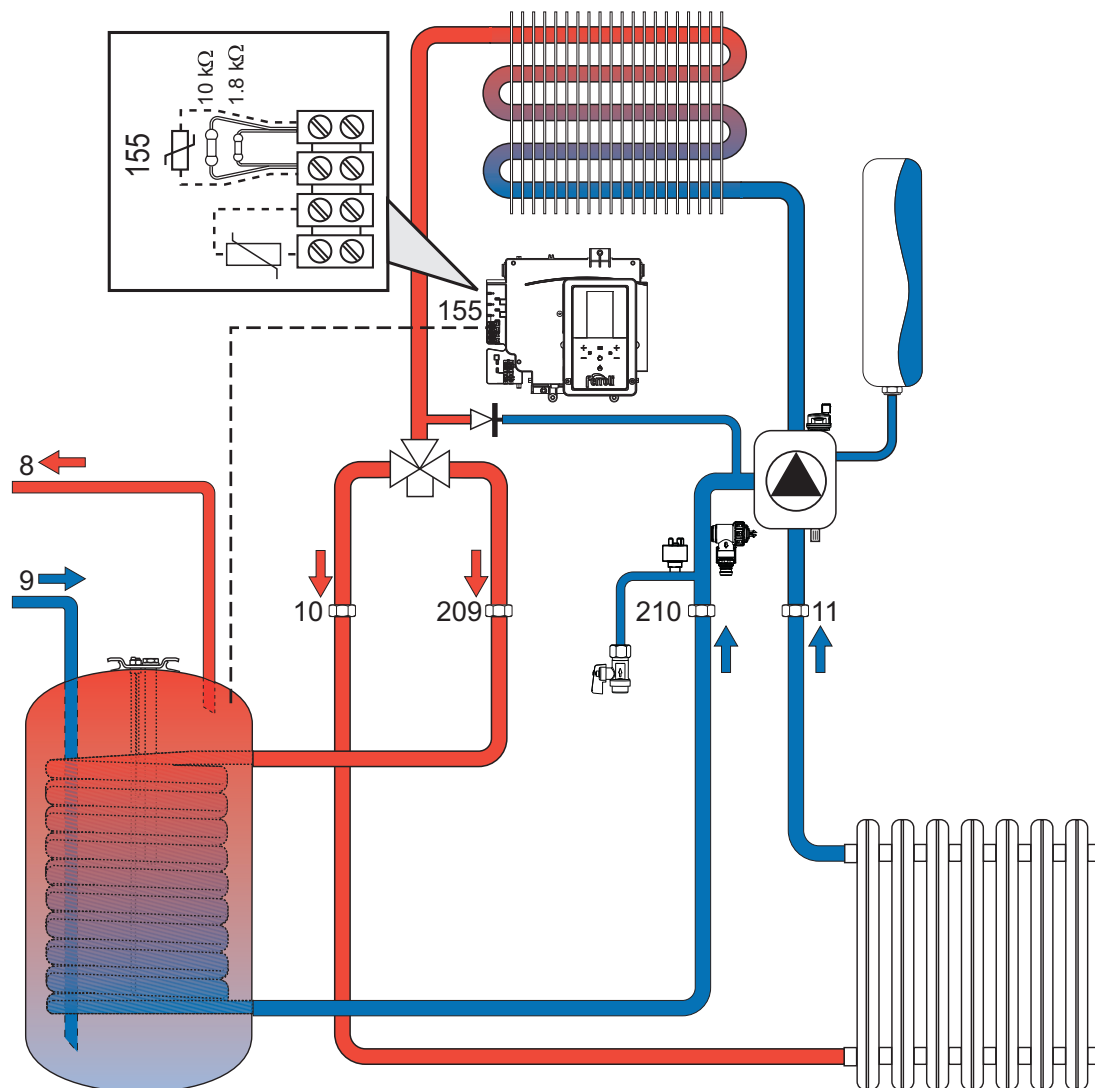

fig. 26- Diagram of connection to an external hot water tank
The unit's electronic card is arranged for managing an external DHW storage tank. Make the plumbing connections according to the diagram of fig. 26. Connect the storage tank probe (155) disconnecting the two resistors from the terminal block. At the next lighting, the boiler control system detects the hot water tank probe and automatically configures the DHW function, activating the display and relevant controls.